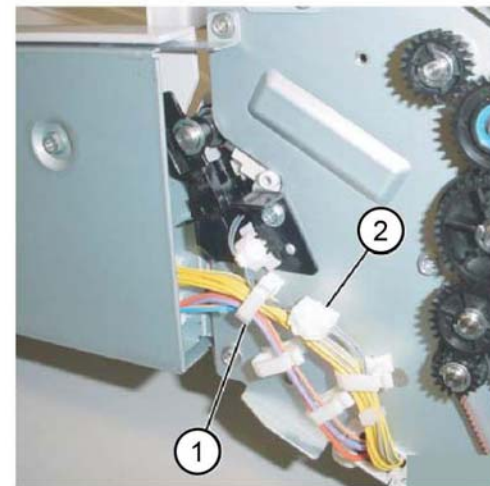

Figure 1 Connector
3. Disconnect the connector, Figure 1:
- a. Release the harness from the clamps (1).
- b. Disconnect the connector (2).